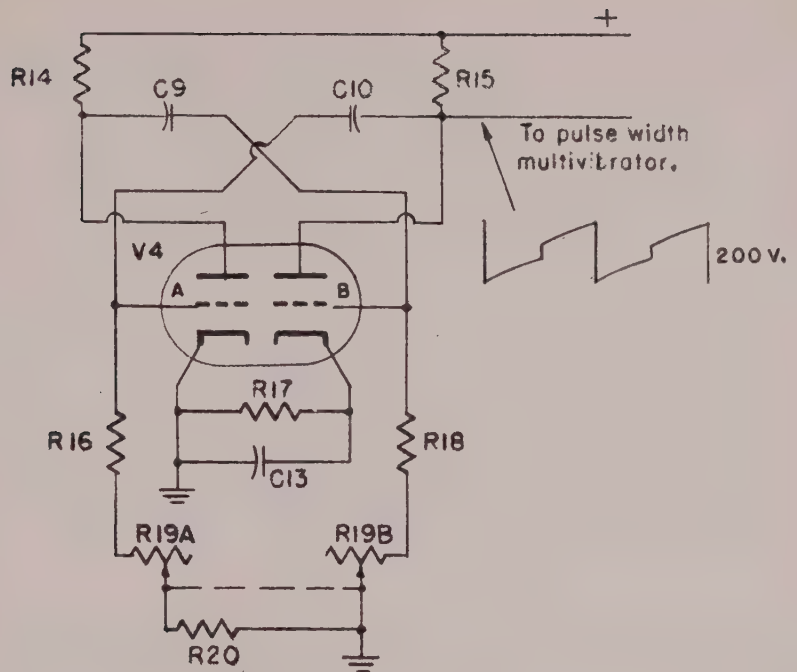

Fig. 2. Functional Schematic, Frequency Multivibrator (X1 position).
a. The frequency determining multivibrator used in the Model 179 is shown schematically in figure 2. A small voltage, say a positive potential on the grid of the A triode section of V4, is amplified by section A and B and applied back to the grid of section A to be reamplified. This action takes place almost instantly and, being repeated over and over causes the grid of section A to assume a high positive potential while the grid of section B becomes increasingly negative and soon exceeds the cutoff potential thus reducing plate current to zero. Section A now draws heavy plate current and continues to do so until the charge on capacitor C9 is discharged through grid-leak resistors R18, R19B and brings the grid potential of section B back toward zero.